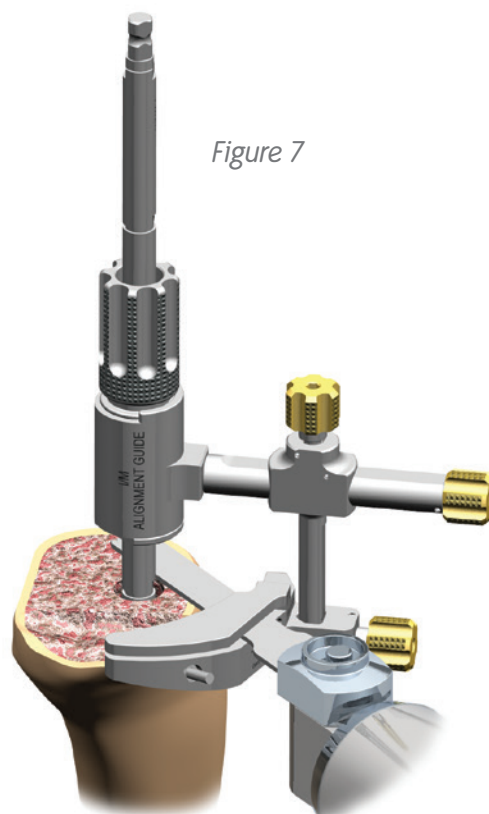

Figure 7
3. Using a 1.35mm oscillating sawblade, resect the proximal tibia (Figure 7).